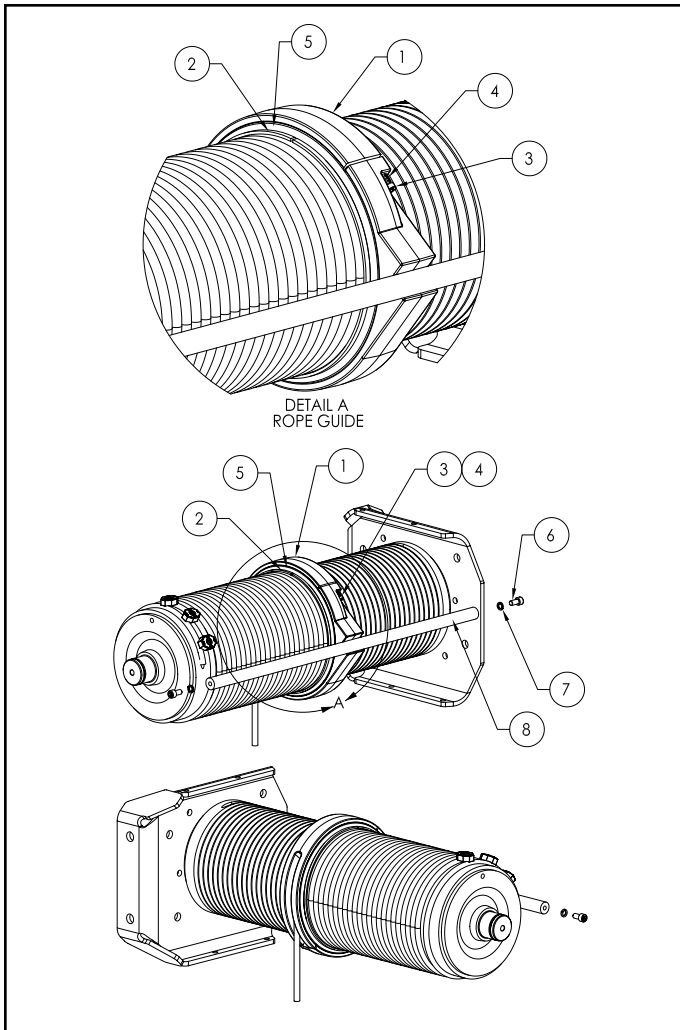

Figure 5-3a. Rope Guide Assembly ('B' & 'C' Frame)
b) Disassembly for "B" & "C" Frames. Refer to Fig. 5-3a. For further assistance in locating components, refer to the parts list in Section IX.
- (1) Remove socket head cap screws and lock washers (Items 6 and 7). Remove drum frame rod (Item 8).
- (2) Remove shoulder bolts (Item 3) and compression springs (Item 4). The two halves of the rope guide body (Item 1) can now be pulled off the drum separately. When reassembling be sure that the half with the rope slot is on the top half of the drum.
- (1) Thread rope to drum from trolley frame side then secure with rope clamps as follows:
- (2) With all personnel clear of hoist - TURN ON POWER.
- (3) Operate hoist "UP" guiding six (6) wraps of new rope into drum grooves with gloved hand.
- (4) Re-install rope guide over rope in rope drum grooves as shown in Figures 5-3a & 5-3b. and outlined in Section V, Paragraph 5-5. Continue lubricating as rope is spooled onto the drum until about 28'-0" remain unwound.